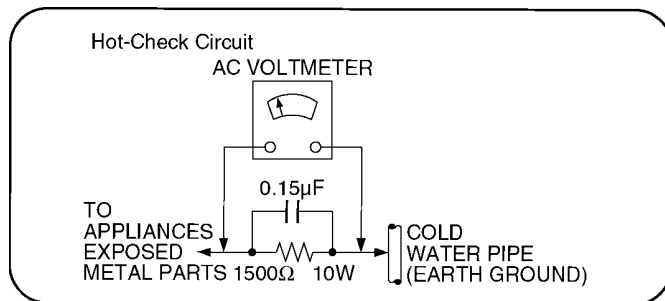

Figure 1
2.1.2. LEAKAGE CURRENT HOT CHECK (See Figure 1.)
2. Connect a 1.5k Ω , 10 watts resistor, in parallel with a 0.15 μ F capacitors, between each exposed metallic part on the set and a good earth ground such as a water pipe, as shown in Figure 1.